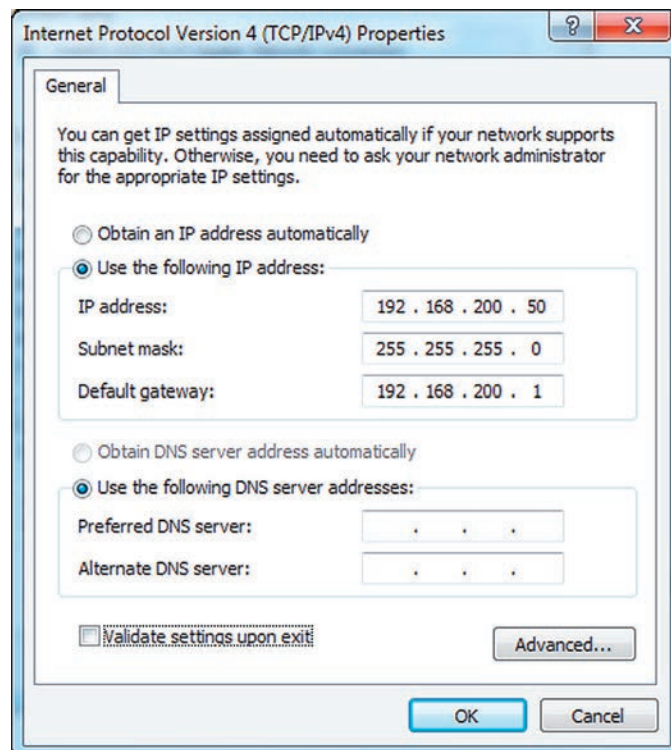

Figure 2. Internet Protocol Version 4 (TCP/IPv4) Properties dialog box.
STEP 6. Step 6. Click on the **Properties** button. The Internet Protocol Version 4 (TCP/IPv4) Properties dialog box will open. See Figure 2. Select the **Use the Following IP address** option.